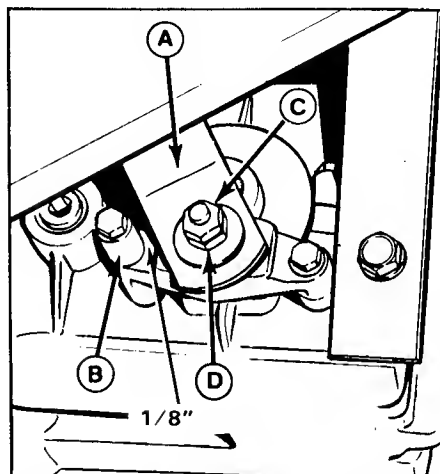

Figure 31. Parking Brake Adjustment
- Push the cam lever (A, figure 31) forward (toward front of tractor) to take out any slack. The gap between lever (A) and stop (B) should be 1/8 inch (0.3 mm). Use a feeler gauge to measure. If not 1/8 inch, perform step C.